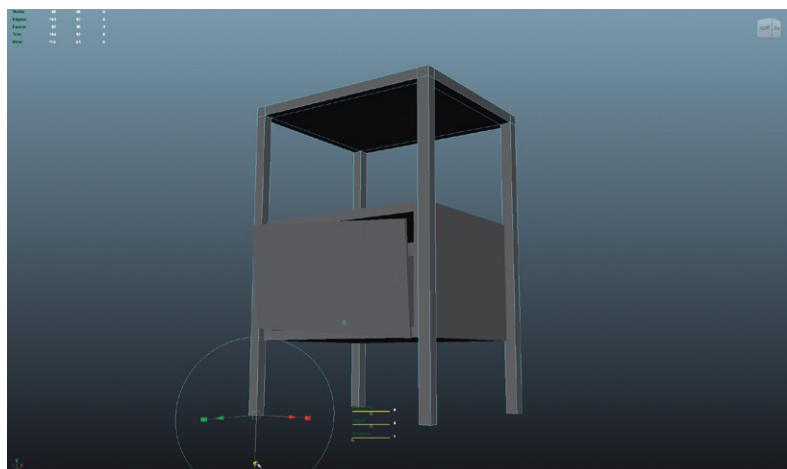

FIG 3.54 Extruding down the legs.
Step 10: Extrude the legs down to the ground. Polygons>Edit Mesh > Extrude (Fig. 3.54).